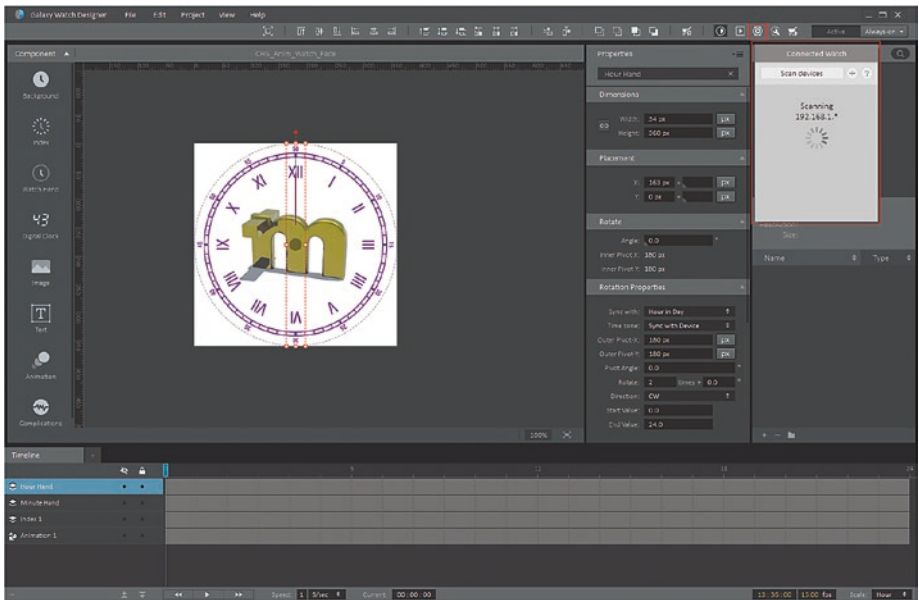

Figure 6-12. Click the Run on Device Icon and then the Scan Devices button
There are two testing icons at the top of GWD, and both use a Play (DV) transport icon to signify a Run (Test) of the watch face design. The in-software one (which we covered already) is just the Play arrow, and the other, Test (Run) Using a Hardware Device, shows a Play icon on a watch face, shown encircled in red in Figure 6-12, along with the dialog it brings up to connect via Wi-Fi with your device directly. This part is a bit tricky, so I'll step you through what it took for me to connect GWD to my Gear S3 Frontier visually (in Figures 6-12 through 6-20) in this section.